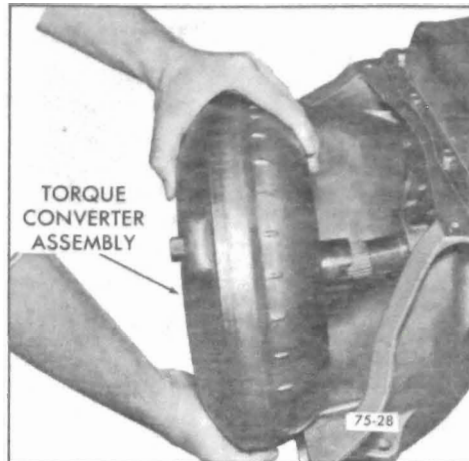

Figure 75-311
- c. Install Converter. See Figure 75-311.